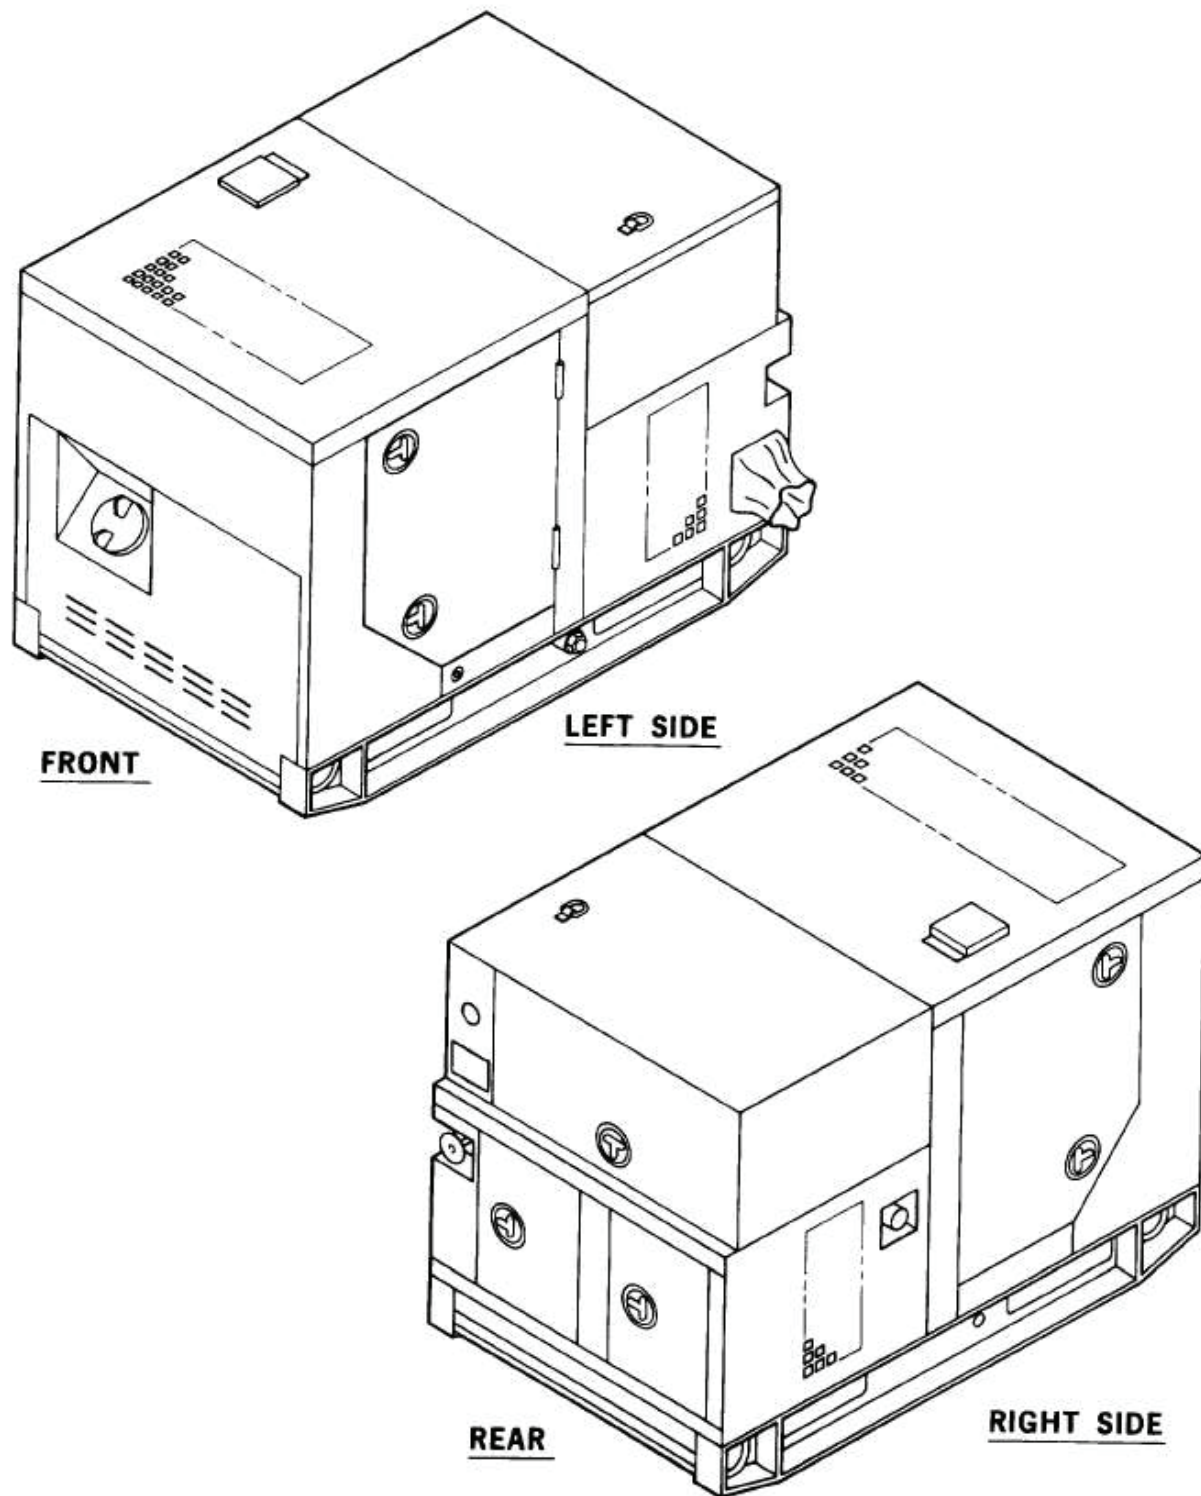

Figure 1. Generator Set, Skid Mounted, 5 kW, Tactical Quiet.
This manual contains operation and operator maintenance instructions for the Tactical Quiet (TQ), 5 kW 60 and 400 Hz Generator Sets (Figure 1), herein referred to as generator set. Included are descriptions of major components and their functions in relation to other components. See Table 1 below for a list of model numbers and equipment names for the generator sets.